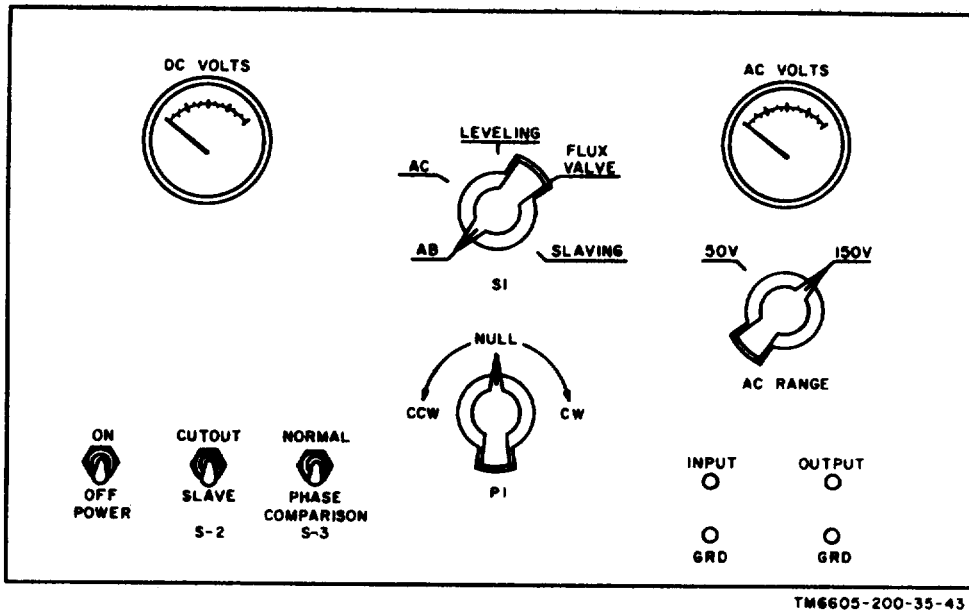

Figure 8. Control-location diagram of test jig for Amplifier, Electronic Control Type A-2.
a. A test jig must be constructed for fifth echelon final tests of Amplifier, Electronic Control Type A-2. Materials required are listed in *b* below; figure 7 is the schematic diagram, and figure 8 is a control-location diagram. The func-
(fig. 8)